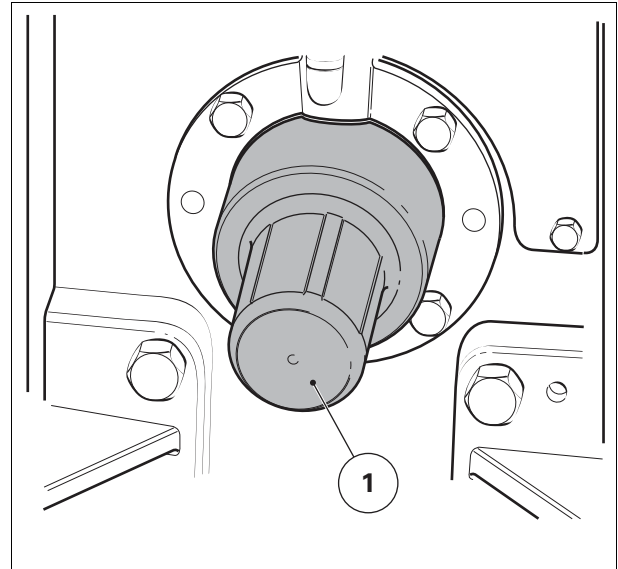

Fig. 8.
- Ensure that the PTO cap (1) is fitted when the PTO shaft is not in use fig. 8.